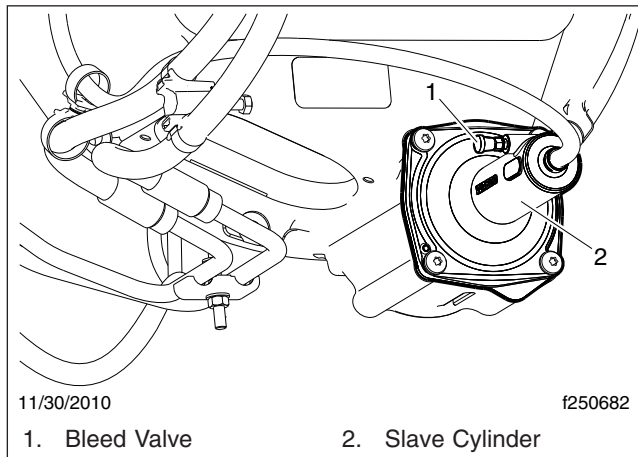

Fig. 4, Slave Cylinder, Hydraulic Clutch Control
- 4.2 Remove the cap from the bleed valve of the slave cylinder. See **Fig. 4**. On the valve, install a transparent drain hose connected to a catch bottle. The hose needs to fit the bleed valve tight enough so it does not fall off when fluid is pumped out.
3. Remove the cap from the bleed valve of the slave cylinder. See **Fig. 4**. On the valve, install a transparent drain hose connected to a catch bottle. The hose needs to fit the bleed valve tight enough so it does not fall off when fluid is pumped out.